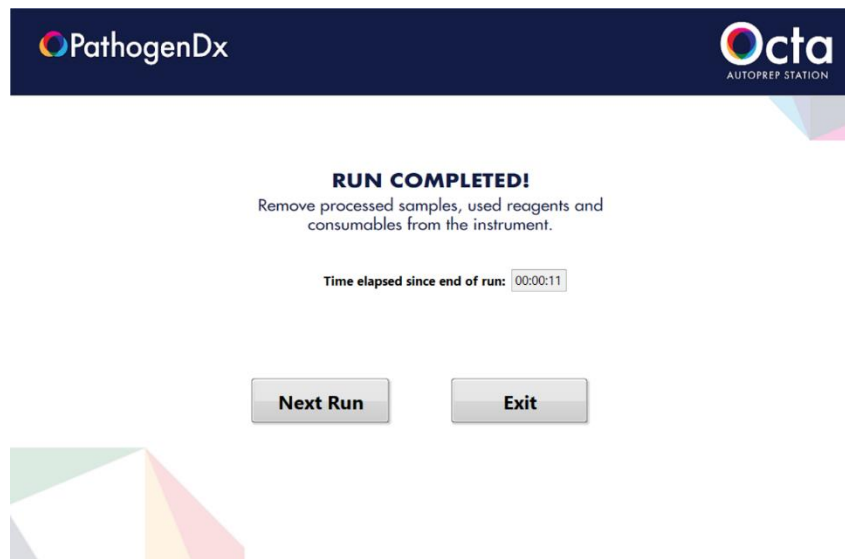

Figure 15: The Octa AutoPrep Station completed run page
4. Once your first run is complete, the Octa AutoPrep Station will signal that the run is complete with a tone. A timer is initiated when the protocol ends so that the user knows how long their purified nucleic acids have been eluted into the Prefilled Reagent Plate. The Octa AutoPrep Software also tells the user which column their nucleic acids are eluted into, dependent on whether the user has run Run 1, Run 2, or Run 3, as shown in Figure 15.